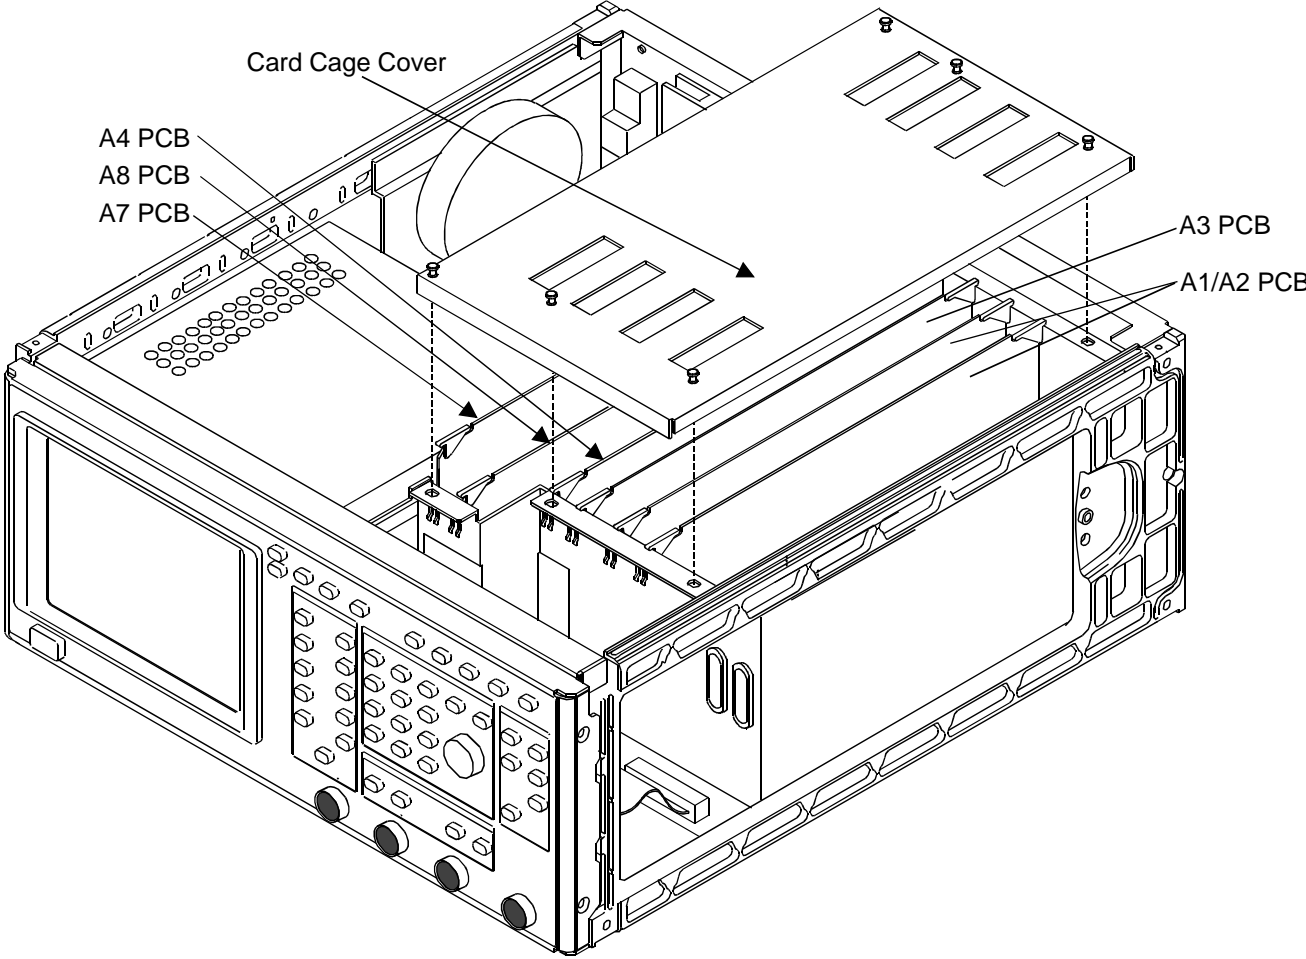

Figure 6-2. Location of A1, A2, A3, A4, A7, and A8 PCBs
- Step 2.*** Loosen the six captive screws on the card-cage cover (Figure 6-2).